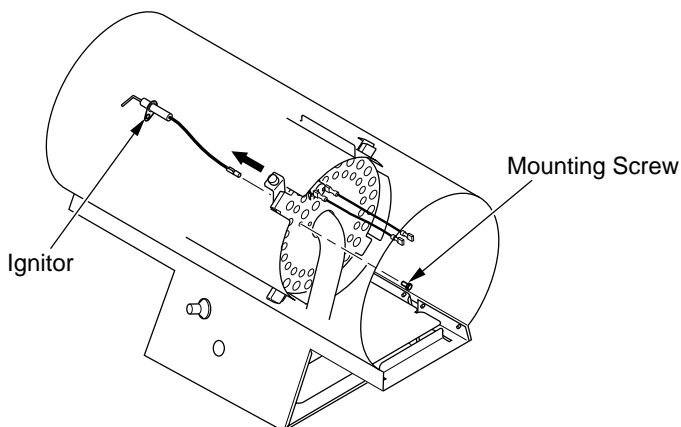

Figure 14 - Removing Ignitor Mounting Screw and Ignitor
3. Remove ignitor mounting screw from rear head using nut-driver or standard screwdriver (see Figure 14).